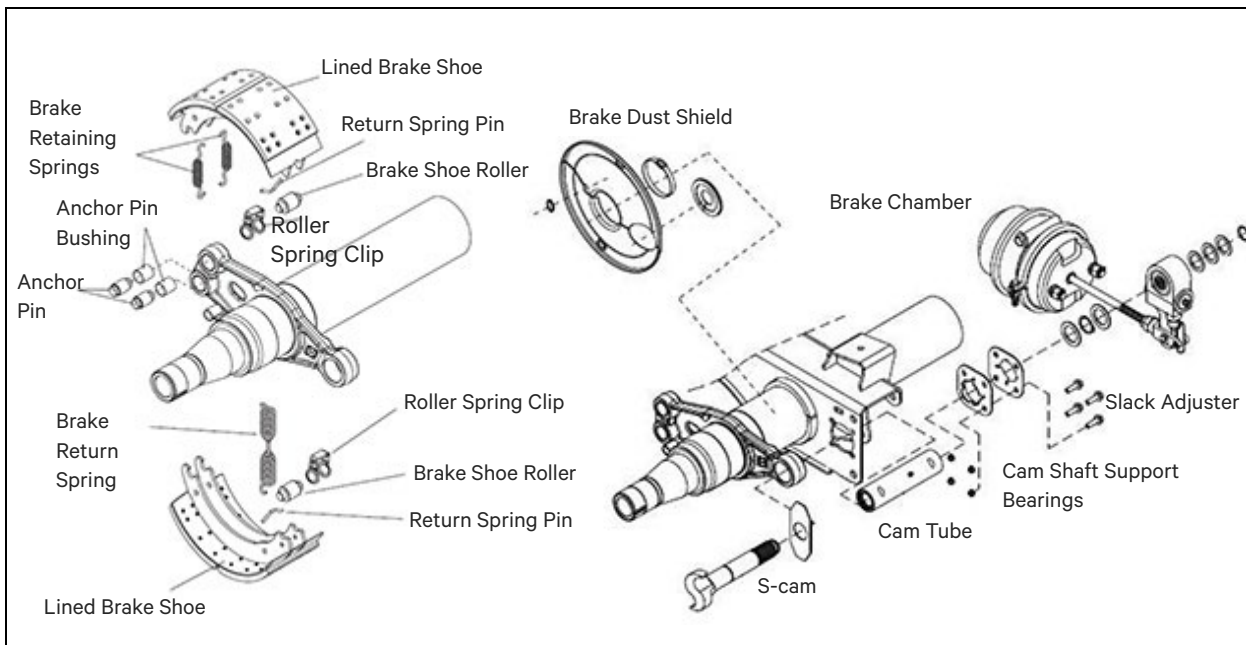

Figure 41 – Typical Brake Component Identification
It should be self-evident that properly maintained and correctly functioning brakes are a critical element in the safe and efficient operation of any trailer. All Flat and Step Deck Trailers are built with air operated drum brakes on every axle. Figure 41 illustrates the key components that make up the foundation brakes.
- i. Brake Drum (not shown in Figure 41)